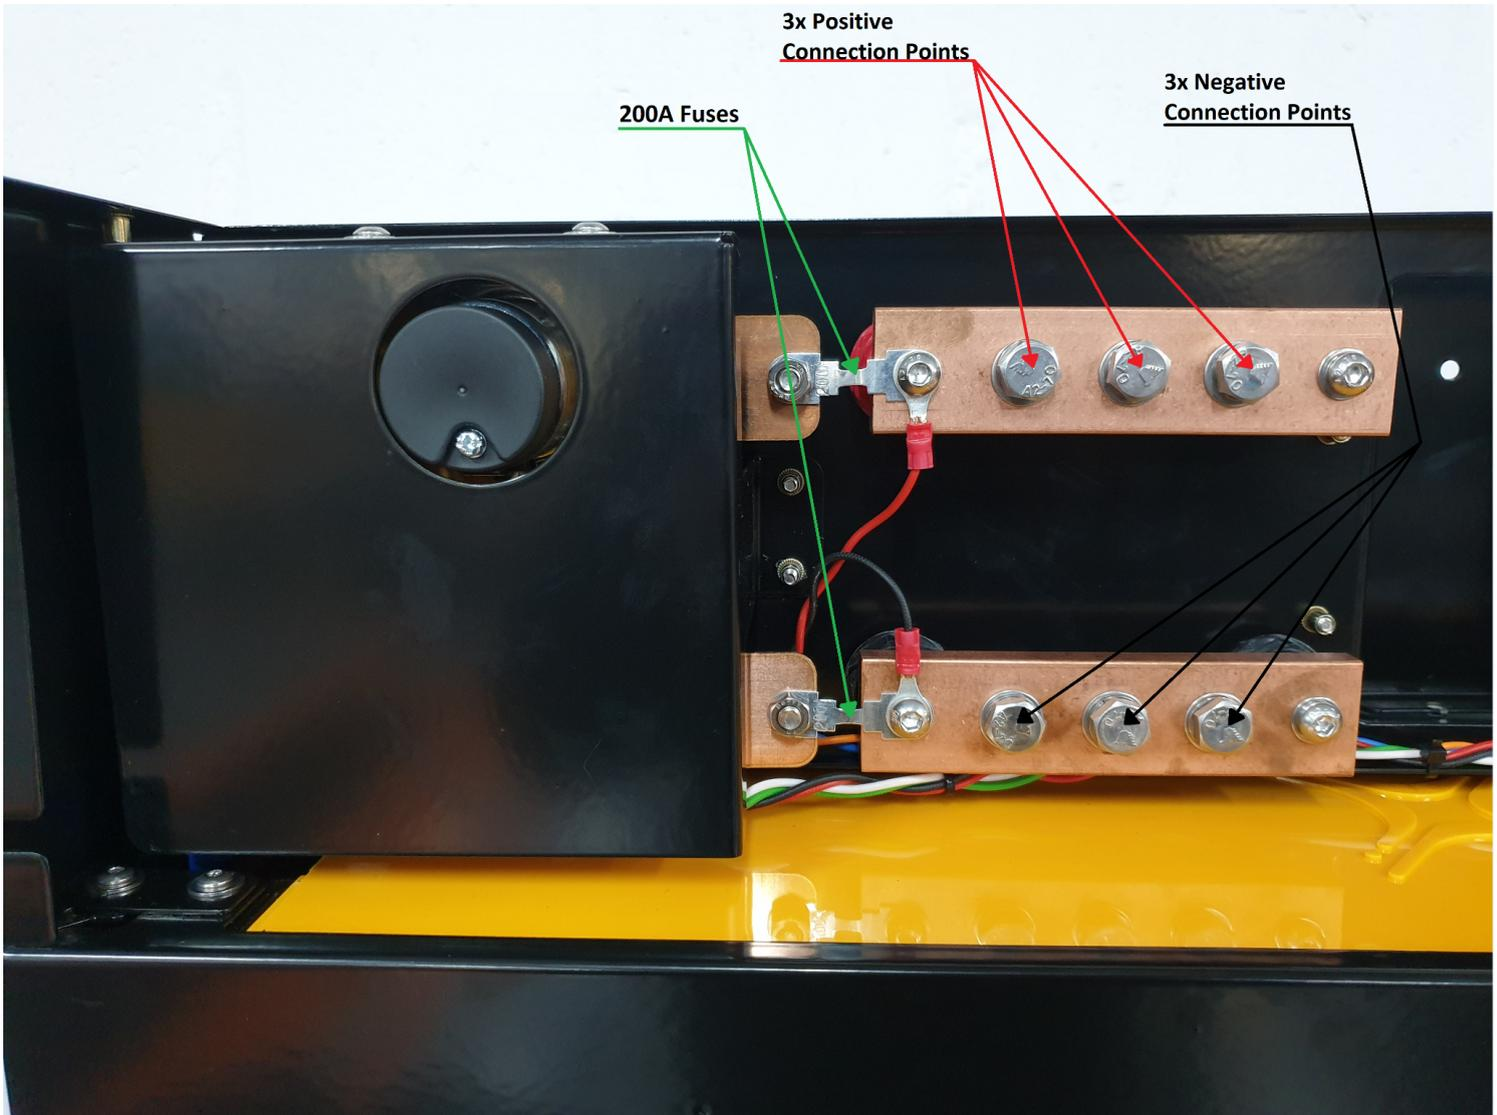

Figure 5: Connection terminals
Step 2. Connect the negative cable to the battery negative busbar and positive cable to the battery positive busbar as shown in figure 5.